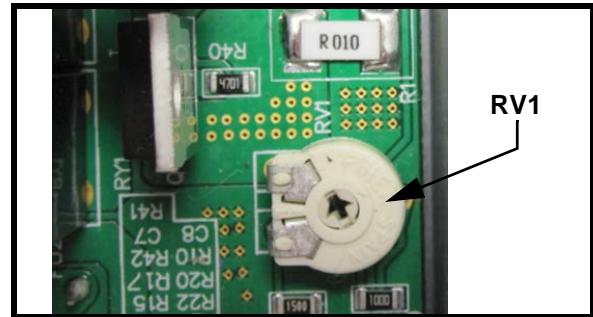

Fig. 28
- 2) **Safe working load:** By actuating the handset, make sure that the lift raises the safe working load on its entire stroke (175 kg / 385 lb). If not, adjust the current limiter with the potentiometer RV1 (see Fig. 28). Keep the safe working load raised for the next step. Turn the potentiometer clockwise to increase the force.